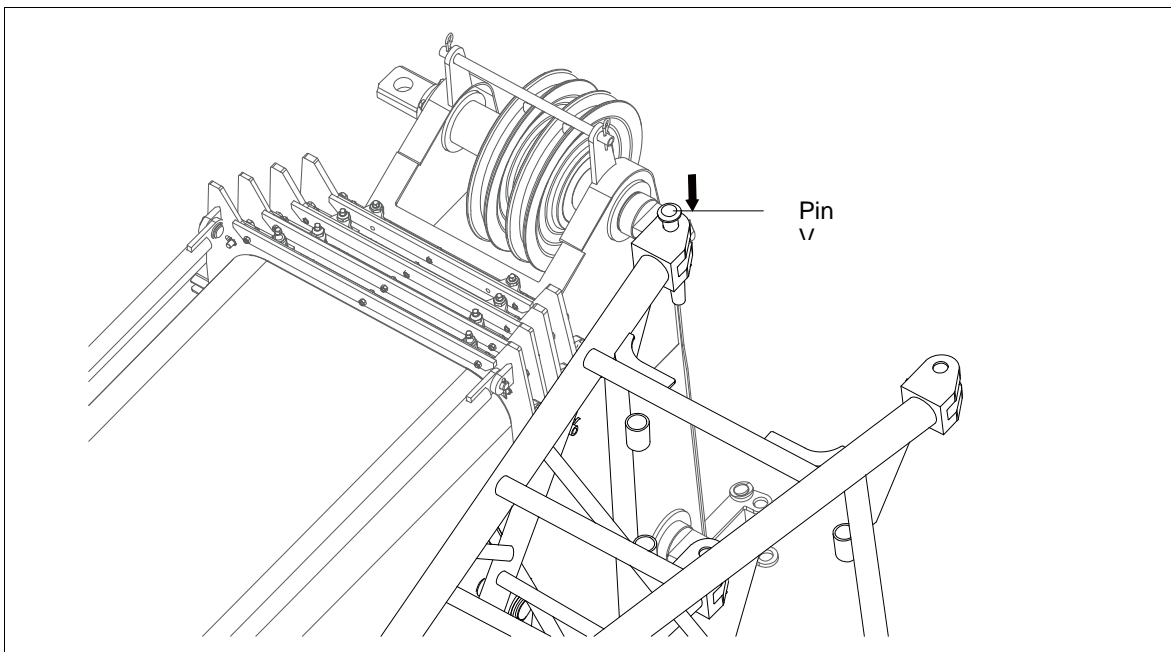

Figure 7-38 Pin V Installation
- K. Align the end of the jib with the connection points on the end of the boom. Install pin V and the retaining clip. Refer to Figure 7-38.